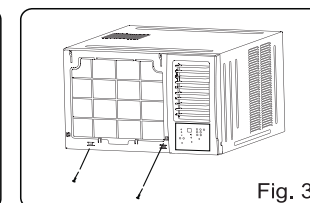

Fig. 3
1. Remove the two fixing screws from the frame (See Fig.3).
2. Fix the screws on the frame (See Fig.3).